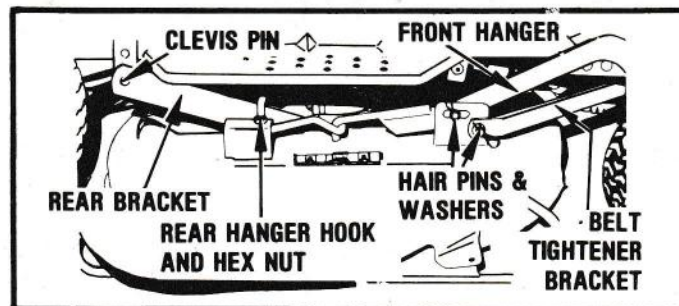

FIGURE 10
3. Lower the mower and remove the hairpin cotters and washers. The two pins and washers on the front secure the mower to the front hangers and can be disconnected to free the front of the mower. The other two pins and washers join the front of the mower to the belt tightener bracket. Loosen the hex nuts and turn the rear hanger hooks to the side to free them from the rear hangers. See Figure 10.
3. If adjustment is required, turn the hex nuts on the rear hanger hooks to move the hooks up or down to secure the proper adjustment. When the mower is leveled and hangs evenly, tighten the hex nuts securely. See Figure 10.